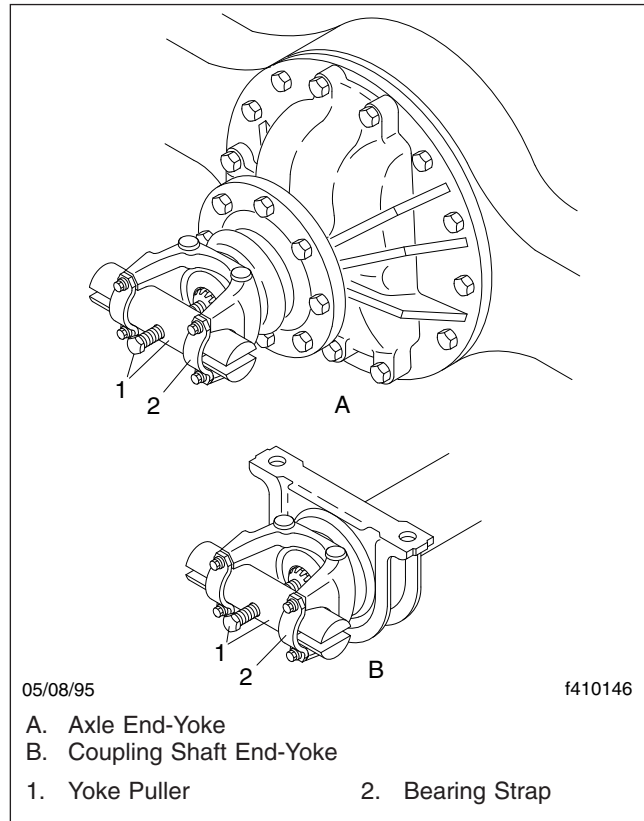
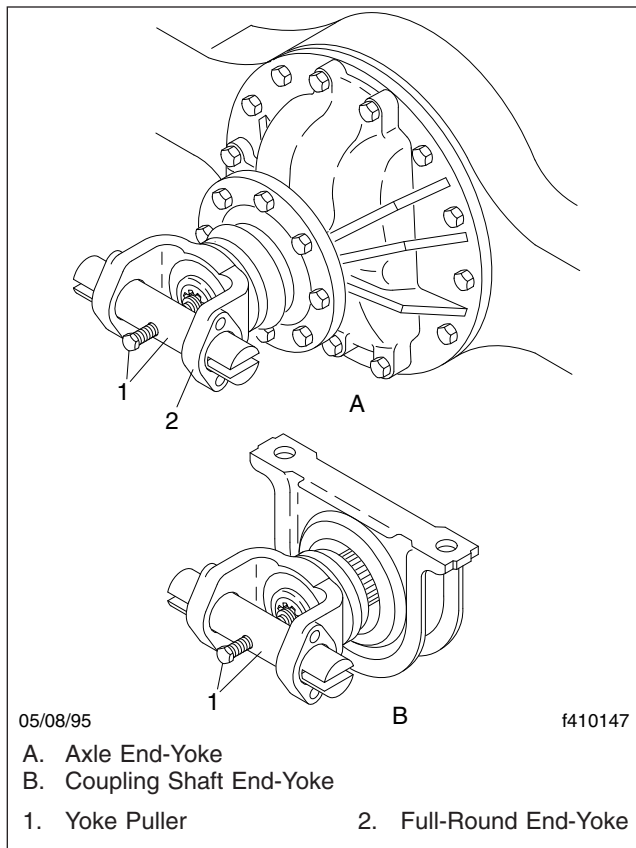

Fig. 13, Removing a Half-Round End-Yoke
Fig. 14, Removing a Full-Round End-Yoke
3. Using a yoke puller, remove the end-yoke. See Fig. 13 for a half-round end-yoke, or see Fig. 14 for a full-round end-yoke.
3. Remove the end-yoke; see Fig. 13 for a half-round end-yoke, or see Fig. 14 for a full-round
- 3.3 Using a yoke puller, remove the end-yoke. See Fig. 13 for a half-round end-yoke, or see Fig. 14 for a full-round end-yoke.